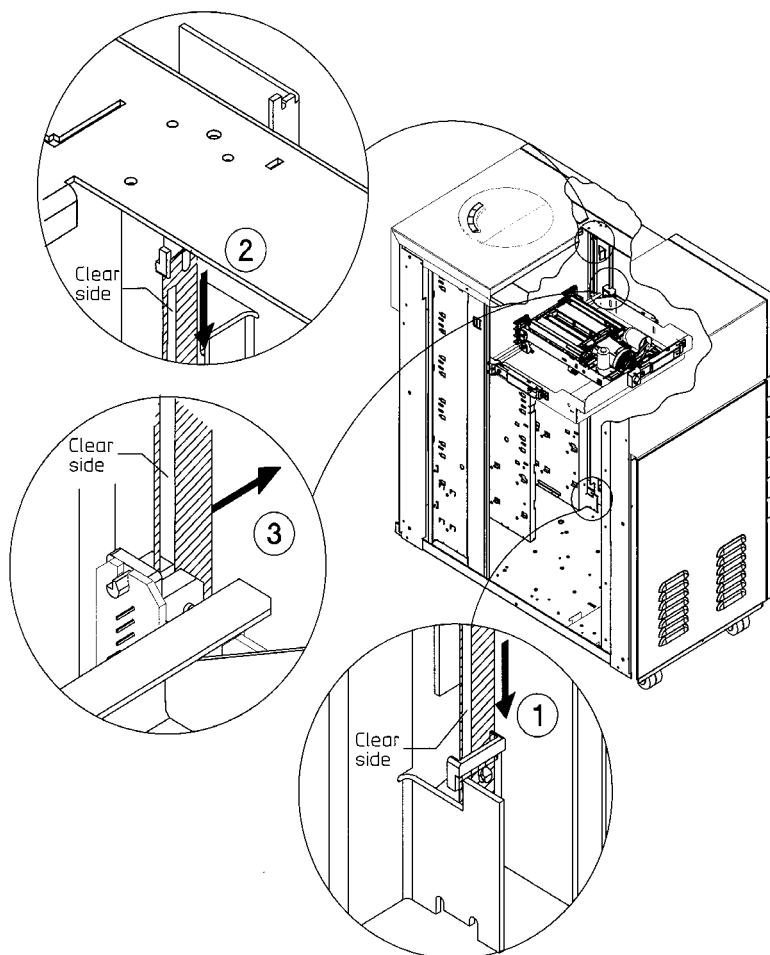

Figure 73: Releasing Both Ends of the Vertical Encoder Strip
2. Raise the translate frame up approximately midway up and secure it with a screwdriver inserted into the hole on the rear of the vertical motor gear box (see #2 on Figure 73).
3. Pull the lower end of the encoder strip down (#1 on Figure 73).
4. Take the upper end of the encoder strip off the spring on the upper strip mount (see #2 on Figure 73).